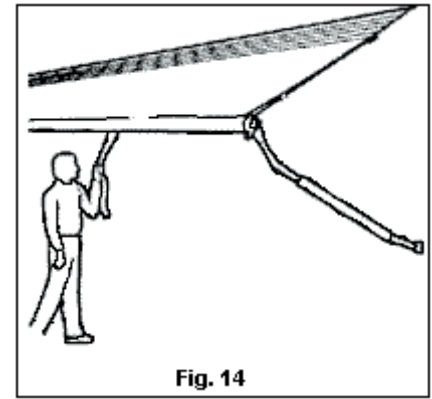

Fig. 14
3. To prevent billowing, release and raise the rafter arm (Fig. 10) and hook the claw of the arm into the slot of the rafter lock (Fig. 14). This will require the awning to be extended approximately four and one half feet.